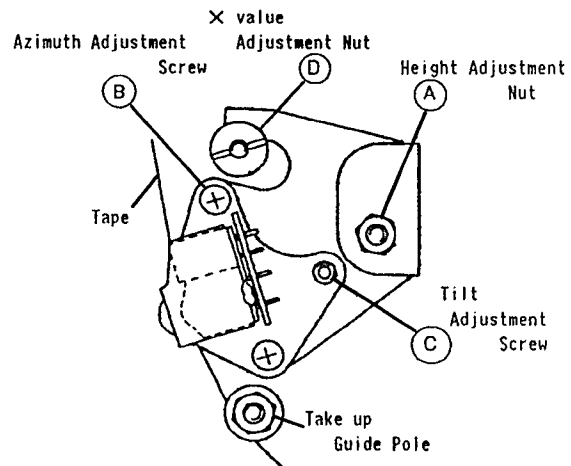

Fig. 5-14
3. After confirming on the oscilloscope that a 1 kHz audio signal is being output by playing back F6-A test tape, adjust the height adjustment nut ④ so that the AC voltmeter's reading is brought to its maximum level. (Refer to Fig. 5-14.)
4. Adjust the azimuth adjustment screw ③ so that the AC voltmeter's reading is brought to its maximum level. (Refer to Fig. 5-14.)
1. After confirming on the oscilloscope that a 6 kHz audio signal is being output by playing back F8-N test tape, adjust the azimuth adjustment screw ⑧ so that the AC voltmeter's reading or oscilloscope waveform is brought to its maximum level (Refer to Fig. 5-14).